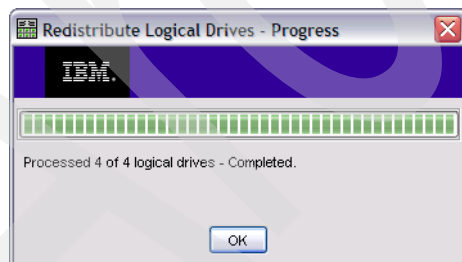

Figure 14-44 Redistribute Logical Drives - Progress
2. Read the information provided in this view and click **Yes** to start. The progress is displayed in the Redistribute Logical Drives window so that you can see when it is completed (Figure 14-44).